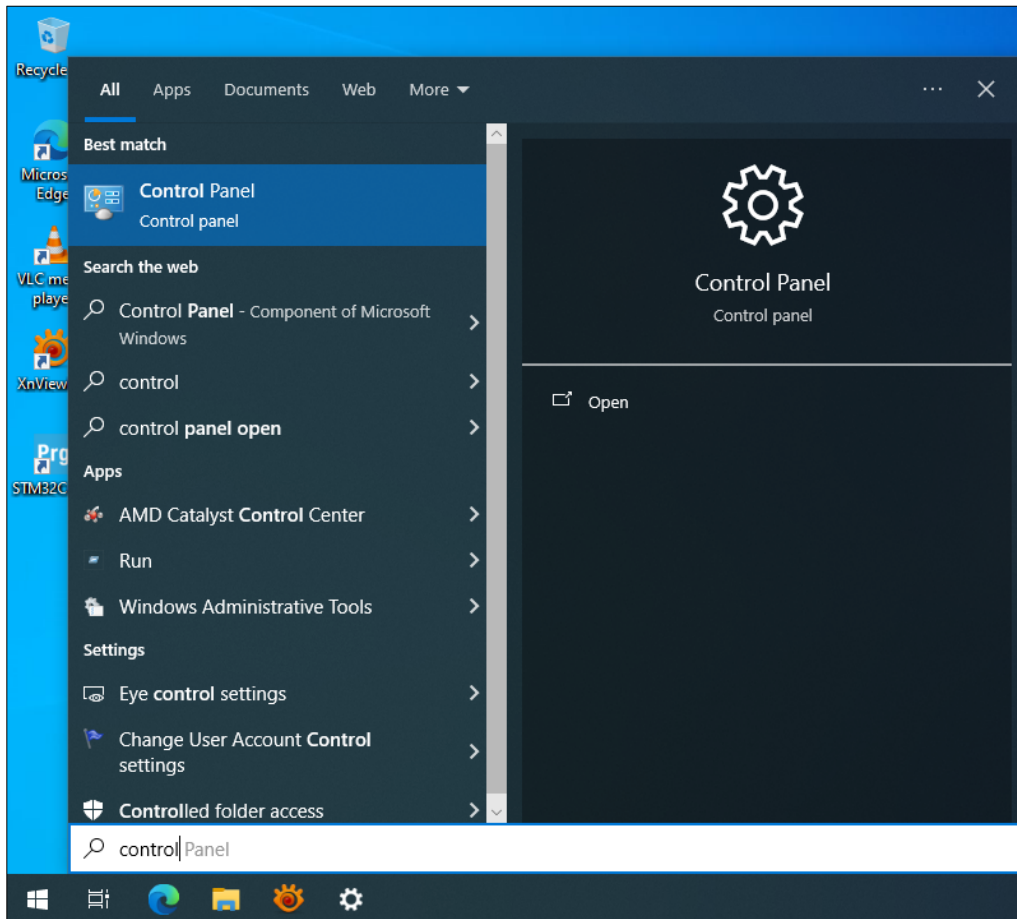

Figure 21: Invoking the "Control Panel" from the "Start".
- 1 Open legacy "Control Panel" dialogue (see Fig. 21),